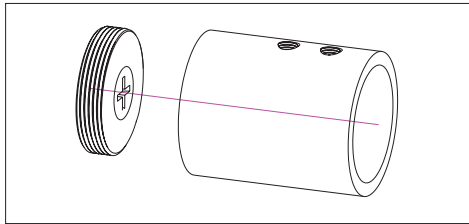

Figure 9
- N. Attach Wall Brackets (#1) to male thread mounted to the wall. Then tighten with Allen Wrench (#16) (see Figure 9).